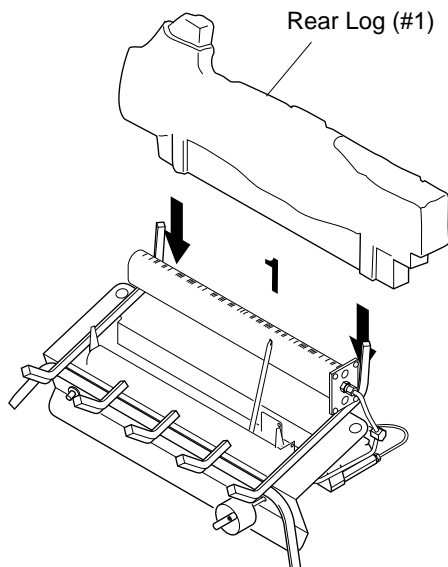

Figure 16 - Installing Rear Log
1. Slide rear log (#1) into place behind rear burner. Make sure flat areas at bottom of log are behind rear burner (see Figure 16).